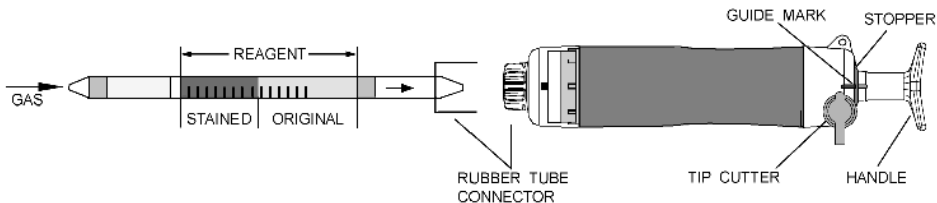

Fig.1
- ② Insert the detector tube into aspirating pump securely as shown in Fig.1. (Arrow mark shall point to the pump.)
- ③ Align the guide marks on the handle and stopper of the aspirating pump.
- ④ Pull the pump handle at full stroke locked position and wait for 1.5 minutes or until the completion of sampling is confirmed with the flow indicator of the pump (See descriptions about the flow indicator in the instructions manual of pump).
- ⑤ On completion of sampling, read the scale at the maximum point of the stained layer.